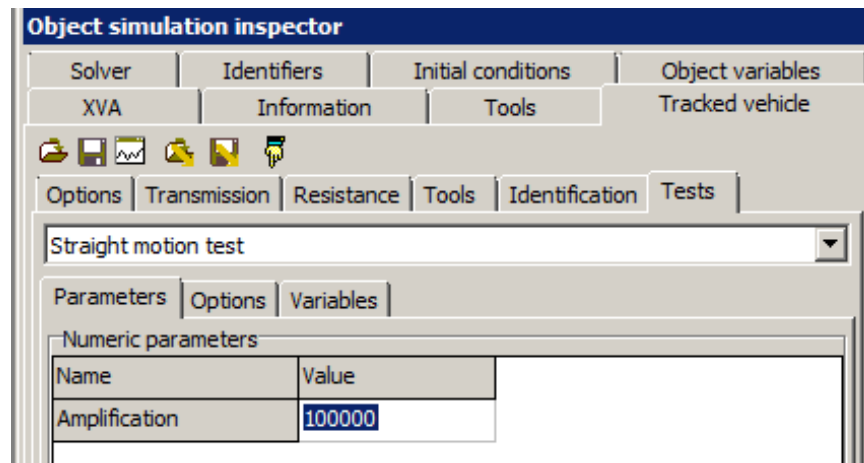

Figure 2.20. Test parameter
1. Select the corresponding type of the test, Figure 2.20. The test parameter is used in control of the speed history, which will be constant in our test. The amplifier is not used if the 'Run-off' speed mode is set.